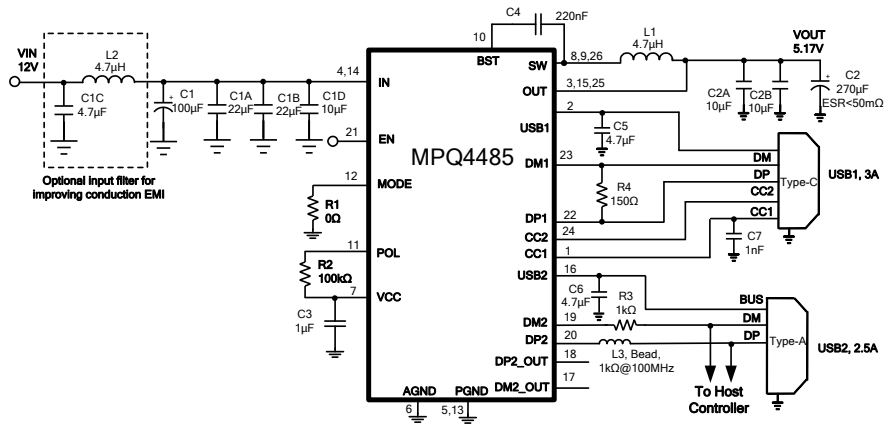
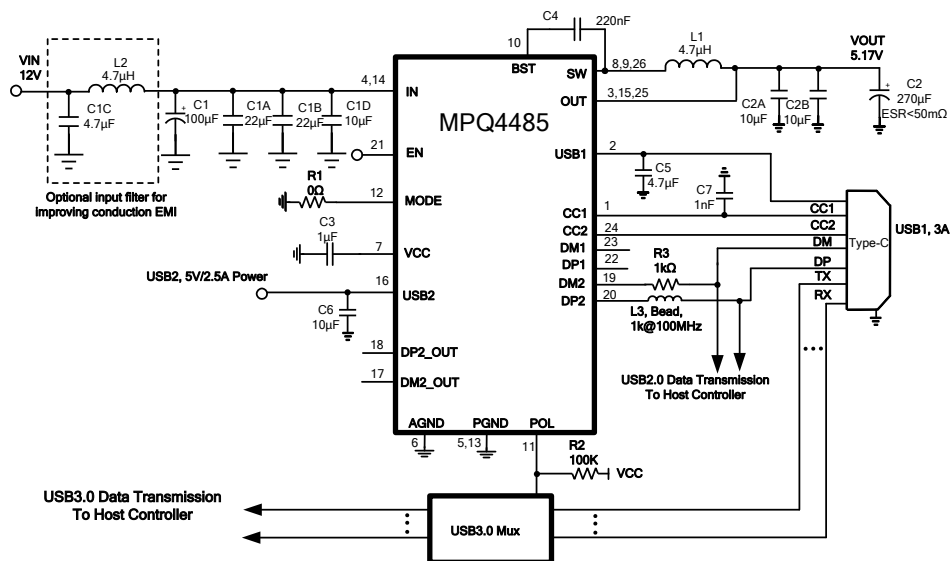

Figure 13: USB1 5V @ 3A Type-C Mode, USB2 Type-A Port with CDP Mode (10) (11)
Figure 15: USB1 Type-C 5V @ 3A DFP Mode with USB3.0/USB2.0 Data Transmission, USB2 5V @ 2.5A Power Output (10) (11)
- 9) The recommended layout is based on setting USB1 to DCP mode and USB2 to CDP mode (see the Typical Application Circuits in Figure 13 to Figure 15).